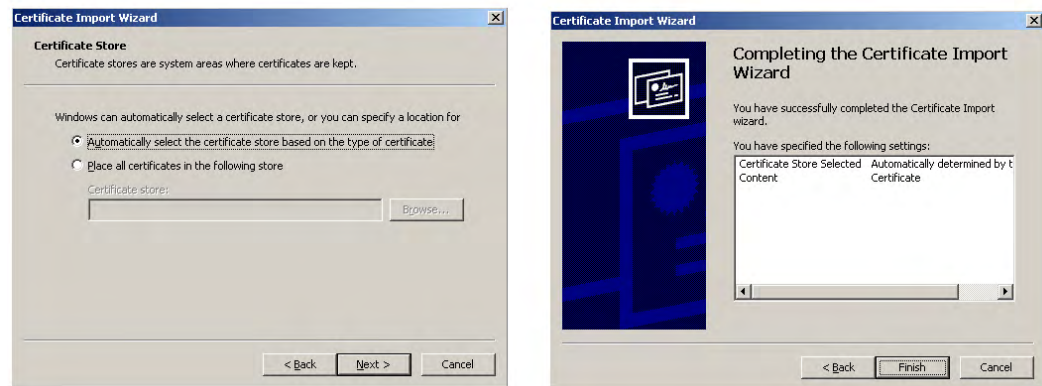

FIG. 58 Certificate Import Wizard- storing the certificate
- Click **Next** to automatically use the default certificate storage settings and locations (FIG. 58).